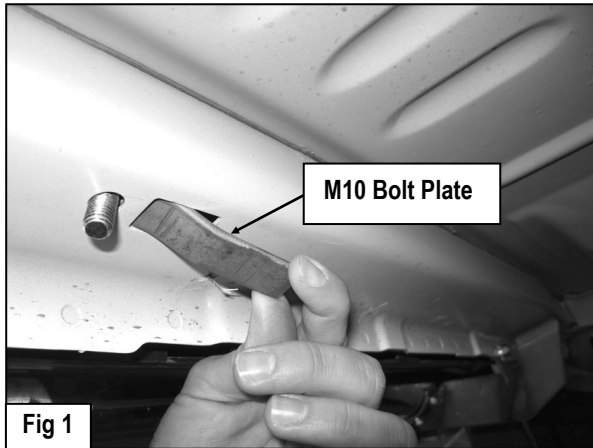

Fig 1
Start installation front the passenger side of the vehicle. Insert (1) M10 Bolt Plate into the rectangular hole and out the round hole in the bottom of the side panel, (**Fig 1**).